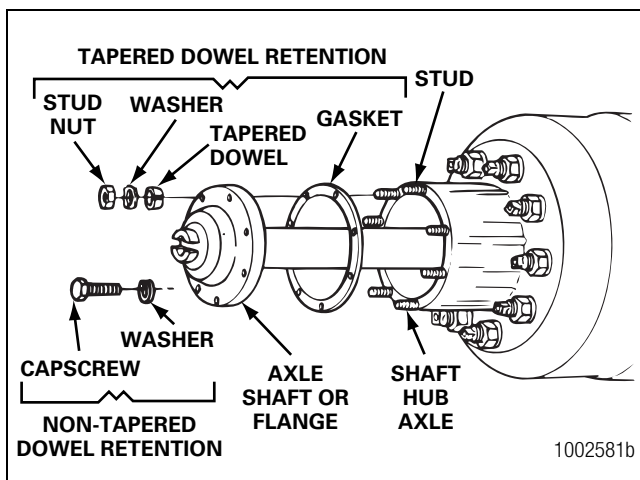

Figure 11.4
8. Remove the stud nuts or capscrews and the washers from the flange of the axle shaft. Figure 11.4.
9. Loosen the tapered dowels, if used, in the flange of the axle shaft. Refer to Section 3 for the recommended tools and removal procedures. Figure 11.4.
10. Remove the tapered dowels, the axle shafts and gaskets, if used. Figure 11.4.
6. Install the gasket, if used, and axle shaft into the axle housing and carrier in the same location. The gasket and flange of the axle shaft must be flat against the hub. Rotate the axle shaft or the driveline as necessary to align the splines and the holes in the flange with the studs in the hub. Figure 11.4.